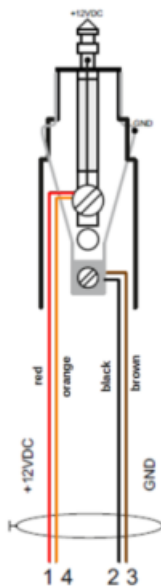

Figure 3-1: Supplied power cable with cigarette lighter adapter
2. Connect the open ends of the cable to the DC power supply. Ensure that the polarity is correct. (See Figure 3-1).